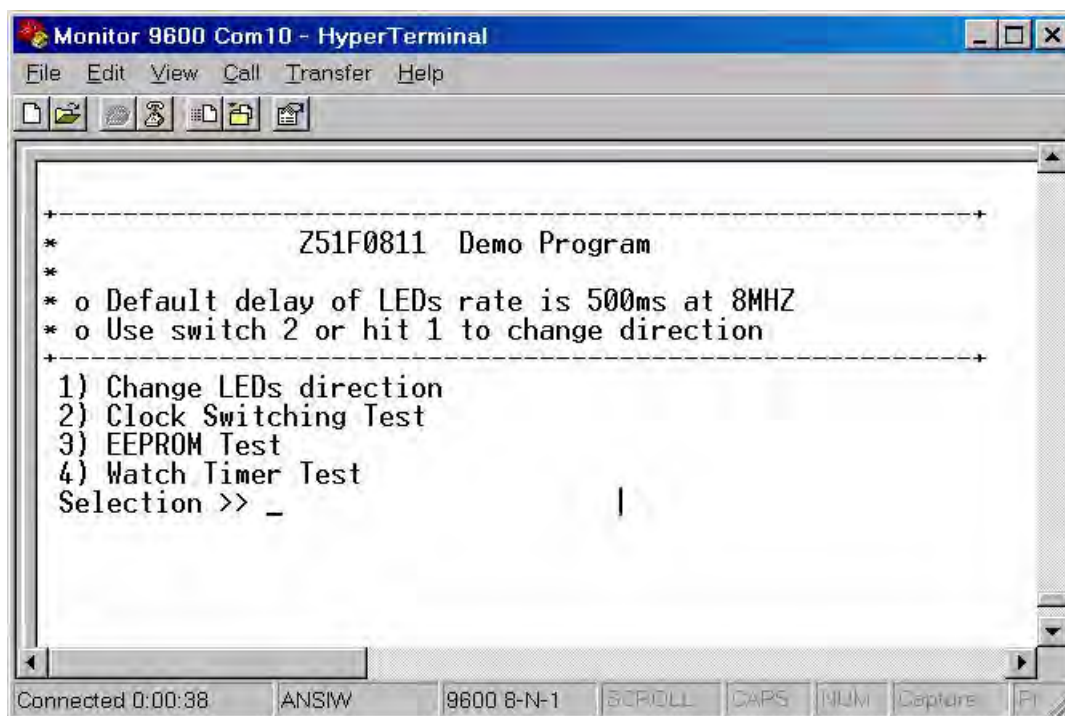

Figure 16. Demo Program Menu in HyperTerminal
3. Click the **Call** button to connect to the Z51F0811 Board. Upon connection, you should be able to see the Demo program menu shown in Figure 16.